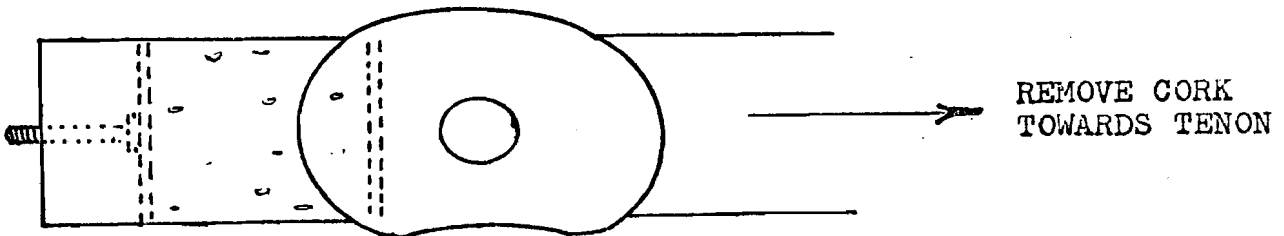

Figure 55
2. Push the cork out the opposite (tenon) end (Figure 55).